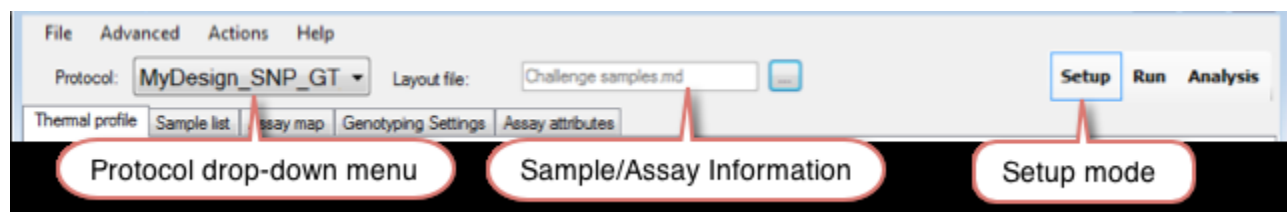

Figure 50. Entering information about your SNP genotyping experiment.
1. Select Setup mode by clicking on the *Setup* tab in the top right corner (Figure 50).